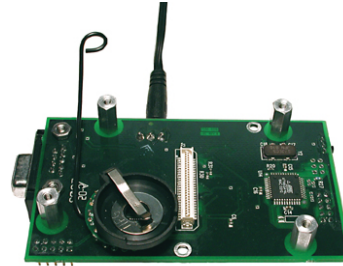

Figure 4-2. MICA2DOT plugged into bottom-side of an MIB510.
1. Connect the female connectors of the MICA2DOT to the male connectors of the MIB’s MICA2DOT programming bay located on the “underside” of the MIB programming board (see Figure 4-2).